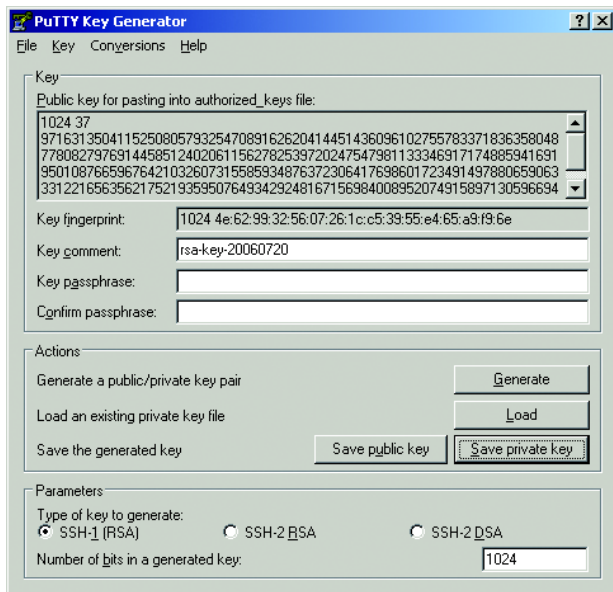

Figure 81: PuTTY key generator
- Check the fingerprint in order to ensure that you have actually connected to the correct device. You will find the fingerprint of your key in the "Key fingerprint" box in the PuTTY key generator (see fig. 81).